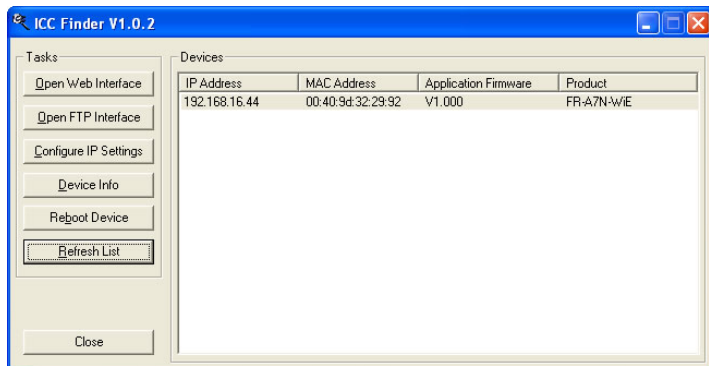

Figure 11: *ICC Finder* Discovery Utility
The “ICC Finder” application is a simple Windows PC program (just a single .exe file, no installations, DLL’s etc.), which when executed discovers all ICC communication interfaces on the current Ethernet subnet, regardless of whether or not their network parameters are currently compatible with the subnet upon which they reside. Refer to Figure 11.
3. The discovery utility scans the network for ICC devices and then lists each device's **IP Address**, **MAC Address**, **Firmware Version** and **Product ID**. Refer to Figure 11 on page 37. Identify your device by its unique MAC address (printed on a label on the top of the Ethernet network jack).